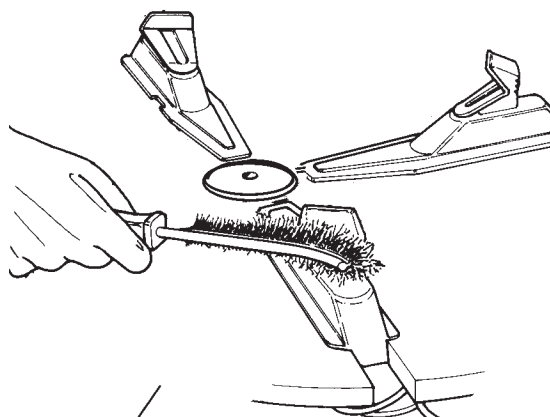

Fig. 5-6
C. Weekly clean the teeth of the clamps (1) with a wire brush, check the nylon clamping jaw insert and (2) replace if worn (Fig. 5-6).